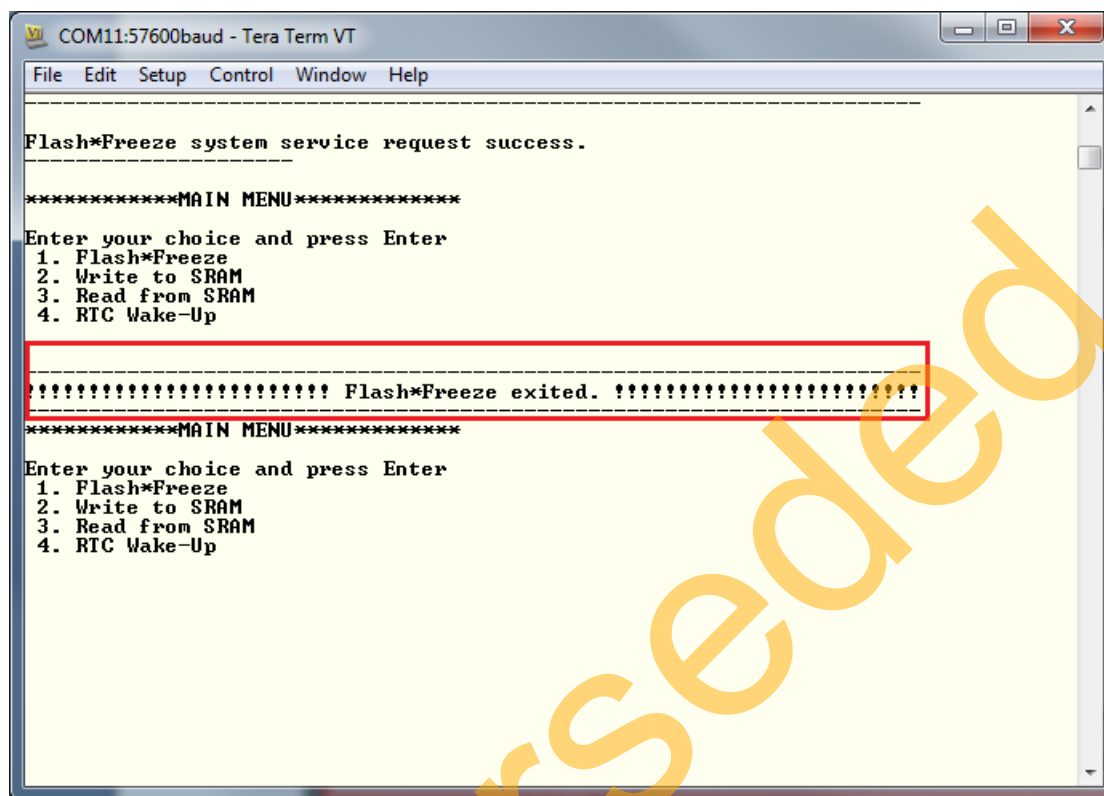

Figure 14 • I/O Activity F*F Exit Event
- To wake up the device from F*F mode, press SW1 switch on the board. This indicates a change on W6 package pin I/O and wakes up the device from F*F, as shown in Figure 14.